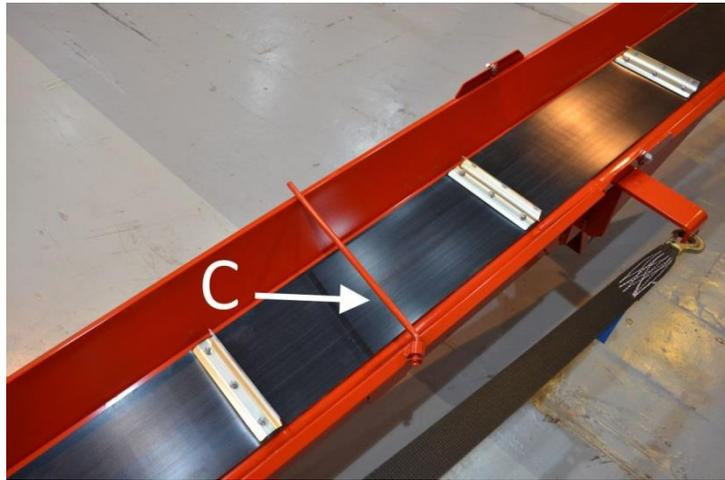

Figure 4c.
5. Turn transport position support bar C on the out-feed conveyor belt (Figure 4c) to the side.